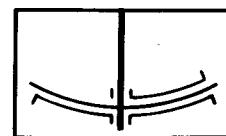

Figure 25
- (1) With the set tuned in 98 MHz, adjust the coil at the upper of T101 so that the pointer of FM tuning meter indicates to the center at the time of no-signal as shown in Figure 25.
- (2) With signal of 98 MHz (400 Hz, 40 kHz DEV.) 60 dB applied, tune FM SG to the position where the signal meter swings to the maximum extent and the pointer of FM tuning meter indicates to the center as the above (1).
- (3) With the above state, adjust the coil of T1 so that the signal meter swings at maximum, then the coil at the lower of T101 so that distortion becomes minimum.